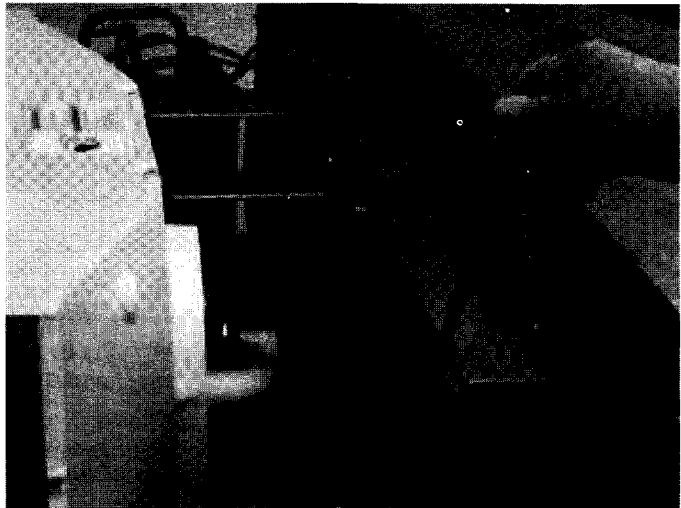

Figure 5
- a. Using a 1/4" nut driver, remove the (8) screws securing the scroll top to the partition panel. Figure 5.